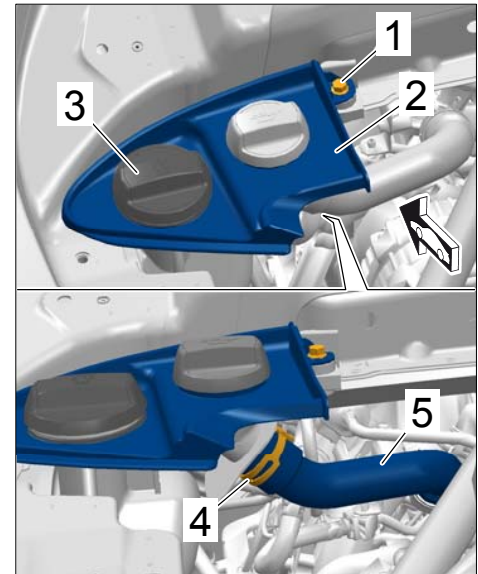

Figure 46
- 3.1 Unscrew the coolant cap ⇒ *Figure 46 -3-*.
- 3.2 Fit upper part of oil filler neck ⇒ *Figure 46 -2-* to the oil filler hose ⇒ *Figure 46 -5-* and secure with the spring band clamp ⇒ *Figure 46 -4-*.
- 3.3 Position upper part of oil filler neck ⇒ *Figure 46 -2-* and secure with the fastening screw ⇒ *Figure 46 -1-*.
- 3.4 Screw in the coolant cap ⇒ *Figure 46 -3-*.